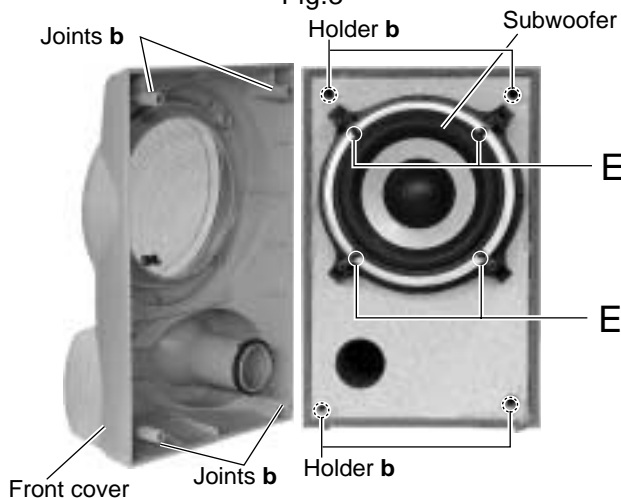

Fig.4
■ Removing the subwoofer (See Fig.4)